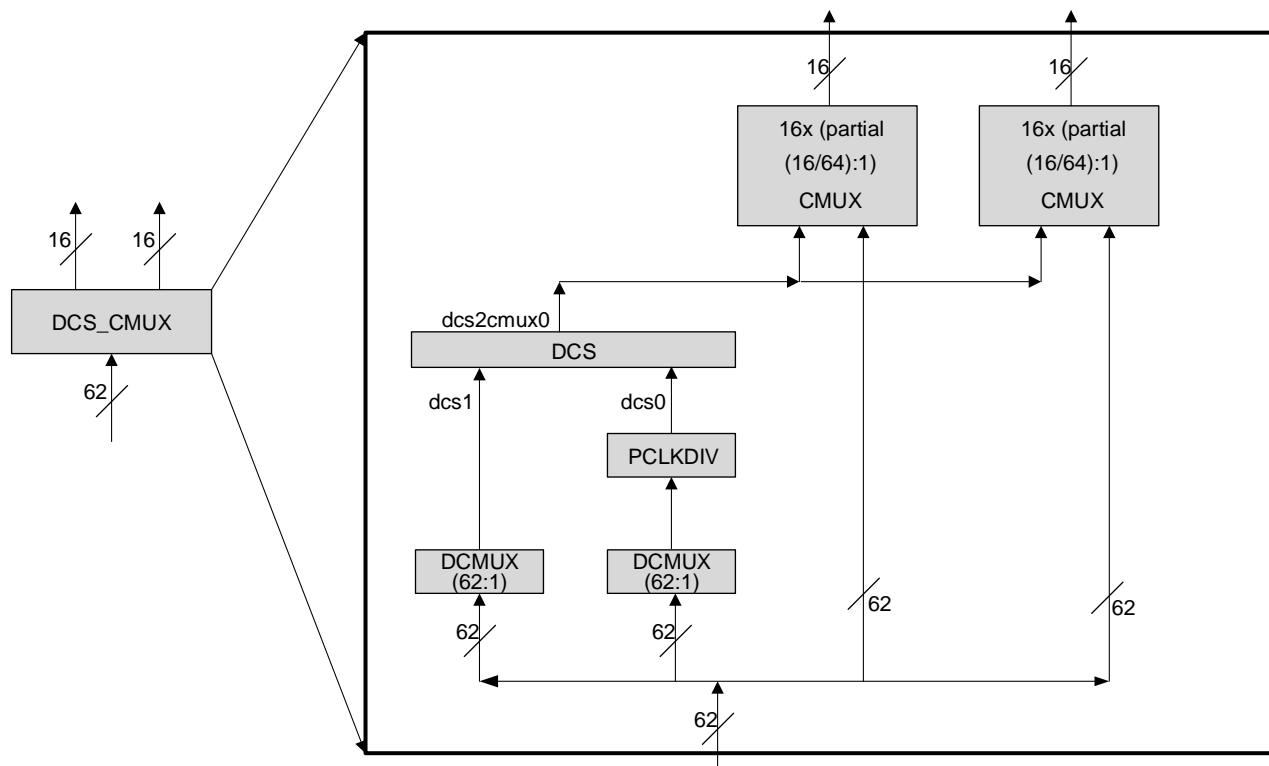

Figure 2.9. DCS_CMUX Diagram
The PCLKDIV supports $\div 2$, $\div 4$, $\div 8$, $\div 16$, $\div 32$, $\div 64$, $\div 128$, and $\div 1$ (bypass) operation. The PCLKDIV is fed from a DCSMUX within the DCS_CMUX block. The clock divider output drives one input of the DCS Dynamic Clock Select within the DSC_CMUX block. The Reset (RST) control signal is asynchronous and forces all outputs to low. The divider output starts at next cycle after the reset is synchronously released. The PCLKDIV is shown in context in Figure 2.9.
All clock sources are selected and combined for primary clock routing through the Dynamic Clock Selector Center Multiplexer logic (DCS_CMUX). There are one (1) or two (2) DCS_CMUX blocks per device. Each DCS_CMUX block contains two DCSCMUX blocks, one PCLKDIV, one DCS block, and 1 or 2 CMUX blocks. See Figure 2.9 for a representative DCS_CMUX block diagram.